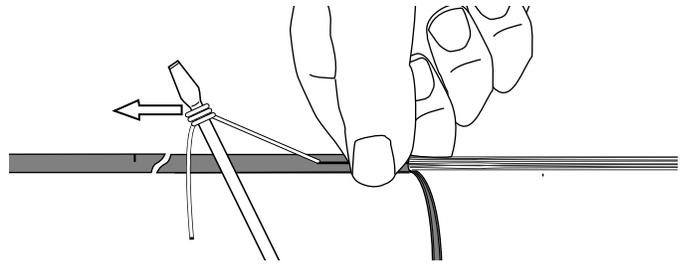

Figure 5
4.4 Position the rip cord in the slit sheath. Wrap the rip cord around the shaft of a screwdriver which will serve as a handle. Pull the rip cord through the sheath back to the marked strip length (Figure 5).